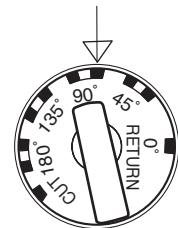
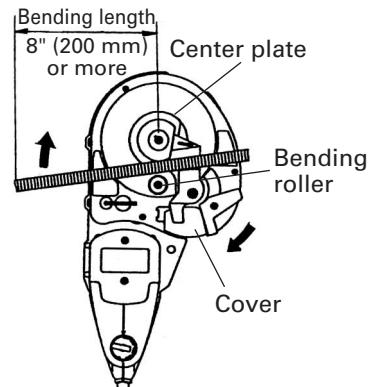
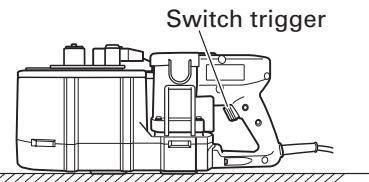

Fig. 13
Fig. 14
Fig. 15
In bending the rebar of #3(3/8"), #4(1/2"), and #5(5/8") diameters, a difference takes place in the bending angle even in the same dial position depending upon the difference of rebar's thickness. Slightly change a position of the setting dial depending upon the rebar's diameter even with the same bending angle as shown in Fig. 13.
- (1) Set the unit in the position with the turntable up as shown in Fig. 14.
- (2) Make sure that the cover is closed.
- (3) Set the setting dial at the desired angle. (Fig. 13)
- (4) Place the rebar on the center plate and set it correctly as shown in Fig. 14.
- (5) Pull the switch trigger and bent the rebar.
- (6) Continue pulling the switch trigger until the motor makes reverse rotation and the bending roller starts to return. (Once the bending roller starts to return, it will automatically return all the way to the home position even if the switch trigger is released.) (Fig. 15)
If the bending length is not long enough, the rebar can come off during bending operation, or it can break into fragments and scatter dangerously. (Fig. 14)